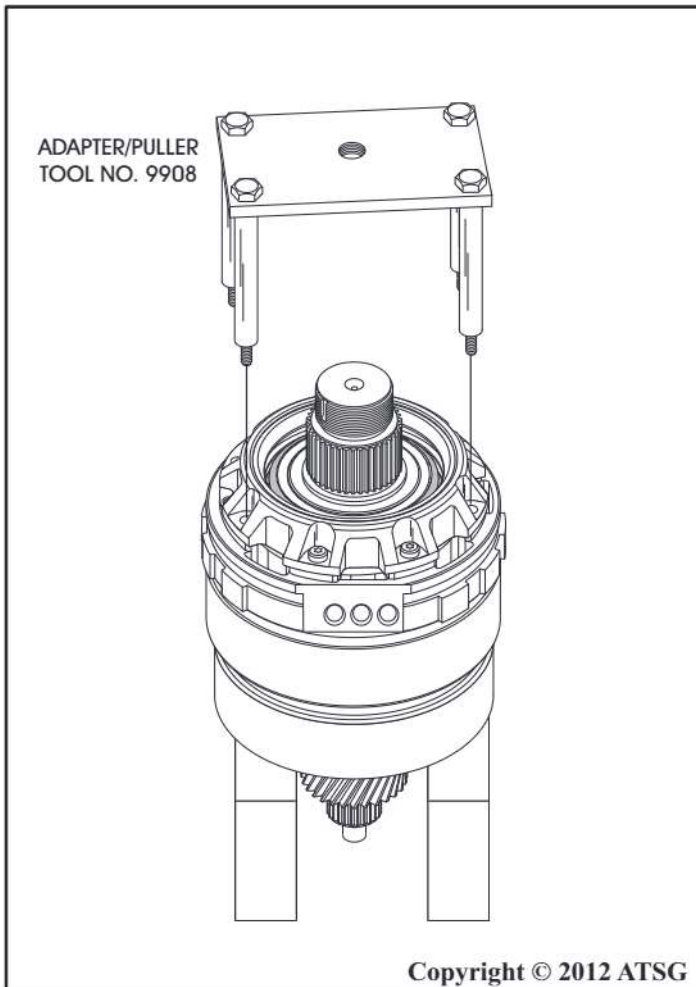

Figure 126
1. Place underdrive gear train on a set of blocks, as shown in Figure 126, and remove adapter 9908.